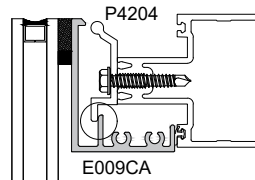

Fig. 43.2
STEP 2: Roll the sill of the cassette frame towards the sill of the back member and slide up engaging the head anchor P4204 as shown in Fig. 43.2.
STEP 3: Attach sill anchors P4200, Fig. 43.2 at 12" o/c and no more than 2" from ends.